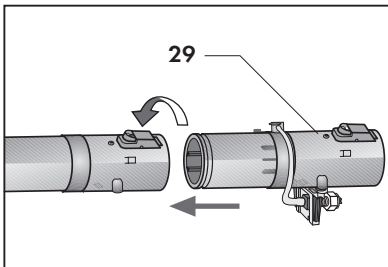

Fig. 13
- Install the female end of the extension hose onto the male end of the sprinkler and rotate the locking ring on the extension hose. **(Fig. 13)**